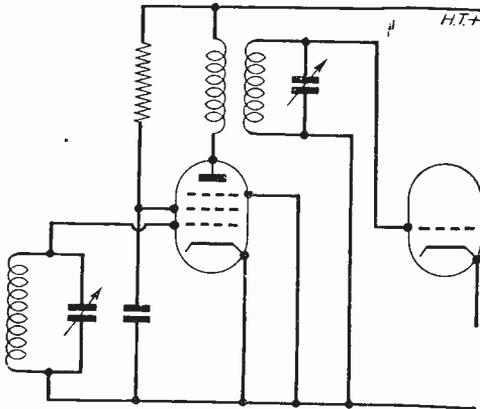

Fig. 51.—Basic transformer—coupled circuit.
The application of a transformer to an R.F. amplifier is indicated in Fig. 51. Now if there are exactly as many turns on the primary as on the secondary, and assuming that all the field of force of one coil cuts the turns of the other coil, that is, assuming perfectly tight coupling, the load on the valve will be exactly as though the tuned circuit were actually in the anode circuit and not just inductively coupled to it. The gain will then be exactly as in the
R.F. coupling transformer in Fig. 51 is given fewer turns than the secondary. The load in the anode of the valve will no longer be the dynamic resistance of the tuned secondary but will be something less, and the actual load is worked out exactly as is done in the case of an audio output transformer, i.e., the reflected load is proportional to the square of the turns ratio. For instance, if there were only half as many turns in the primary as in the secondary the load into which the valve would work would be only a quarter of the dynamic resistance of the tuned secondary. But gain, we have seen, is the anode load multiplied by  $g_m$ , and so the voltage at the anode of the valve is reduced to a quarter of what it would be with tuned-anode coupling. Clearly, therefore, with a given degree of feedback caused by the valve and the associated circuit there will be less voltage fed back and therefore less risk of instability. Maybe the reduction in gain by  $n^2$  (where  $n$  is the turns ratio and the secondary has the greater number of turns) will seem rather a large price to pay, but it is not really quite so bad as that because the transformer has a step-up ratio of 2:1 and so twice as many volts will appear in the tuned circuit at the secondary as is at the anode of the valve. Thus, though the gain is reduced in proportion to  $n^2$  and the improvement in stability is in that ratio, the step up of voltage in the transformer will be  $n$  times, and so the overall gain from the grid of the amplifying valve to the grid of the following valve will be reduced by only  $n$  times.